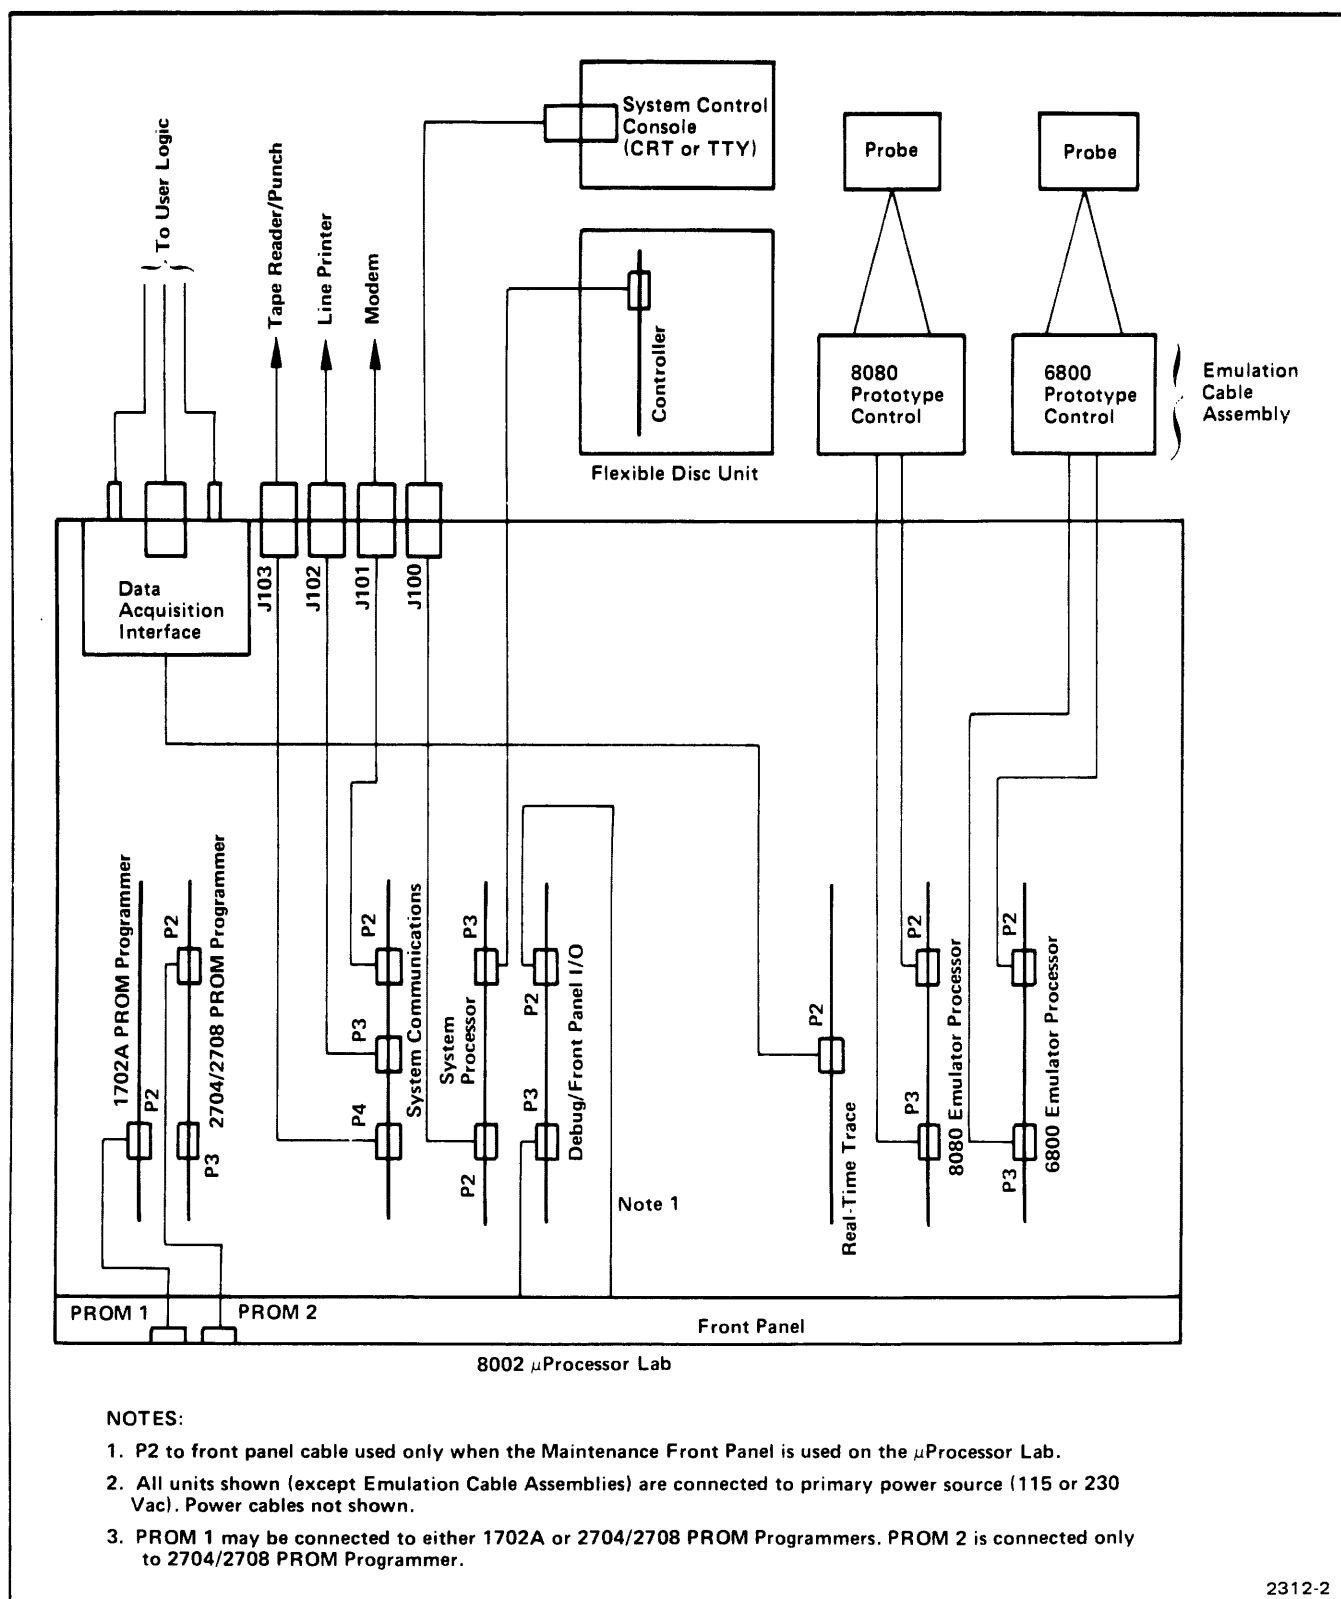

Fig. 11-1. 8001/8002 μ Processor Lab System Interconnect Diagram.
Two Prototype Control Probe cables are attached to the top edge connectors P2 and P3 of the Emulator module as shown in Fig. 11-1. Care should be taken that pin 1 of the cable (red strip) and pin 1 of the edge connector align. Pin 1 is to the left when viewed from the component side of the module. Press firmly on the cable connectors to seat them properly into their board edge connector. Before removing the module, make sure that the primary power to the μ Processor Lab is OFF. Grasp the module ejectors (small white plastic handles on each upper corner of the module) and pull upward. The ejectors will lift the module free of the motherboard.
- 7) Mount the Emulator Processor module in the μ Processor Lab. The emulation cable assemblies that enter the center and right cableways (from a front panel view) on the backpanel of the μ Processor Lab, must be correctly installed in the cable clamps as illustrated in Fig. 11-1. Make sure the bared ground plane of each cable makes good contact with the cable clamps to ensure proper grounding.